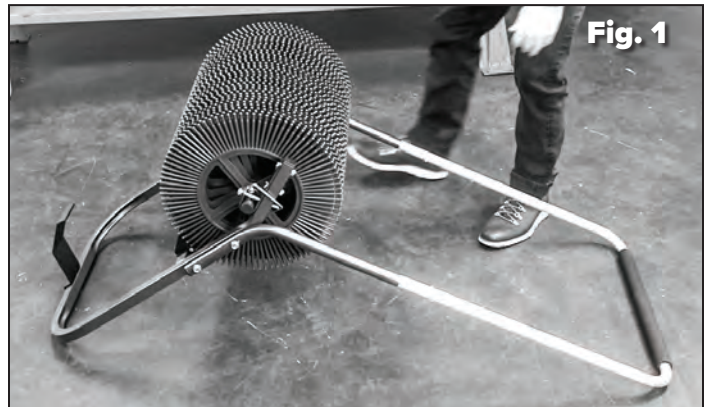

Fig. 2
2. (Fig. 2) Remove the bin from the frame. Attach the handlebar to the frame using the four 5/16-18 x 2-inch flange head screws as shown.
2. (Fig. 2) Unlock and remove the clevis pins from both sides of the frame that hold the axle of the wheel stack in place. Now, slide the entire wheel stack out of the J-hooks, and off the frame.